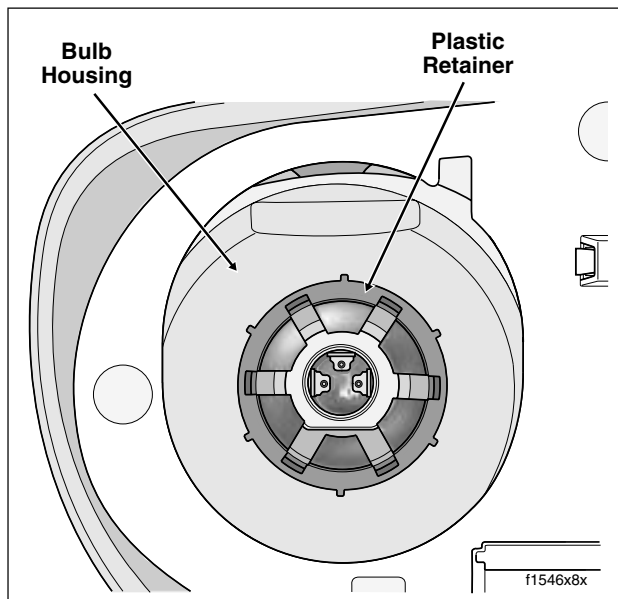

Figure 8-30. Remove Retainer to Release Bulb
5. Rotate plastic retainer in a counter-clockwise direction to remove from bulb housing flange. See Figure 8-30.
2. Place plastic retainer over bulb housing flange and rotate in a clockwise direction until tight. See Figure 8-30.